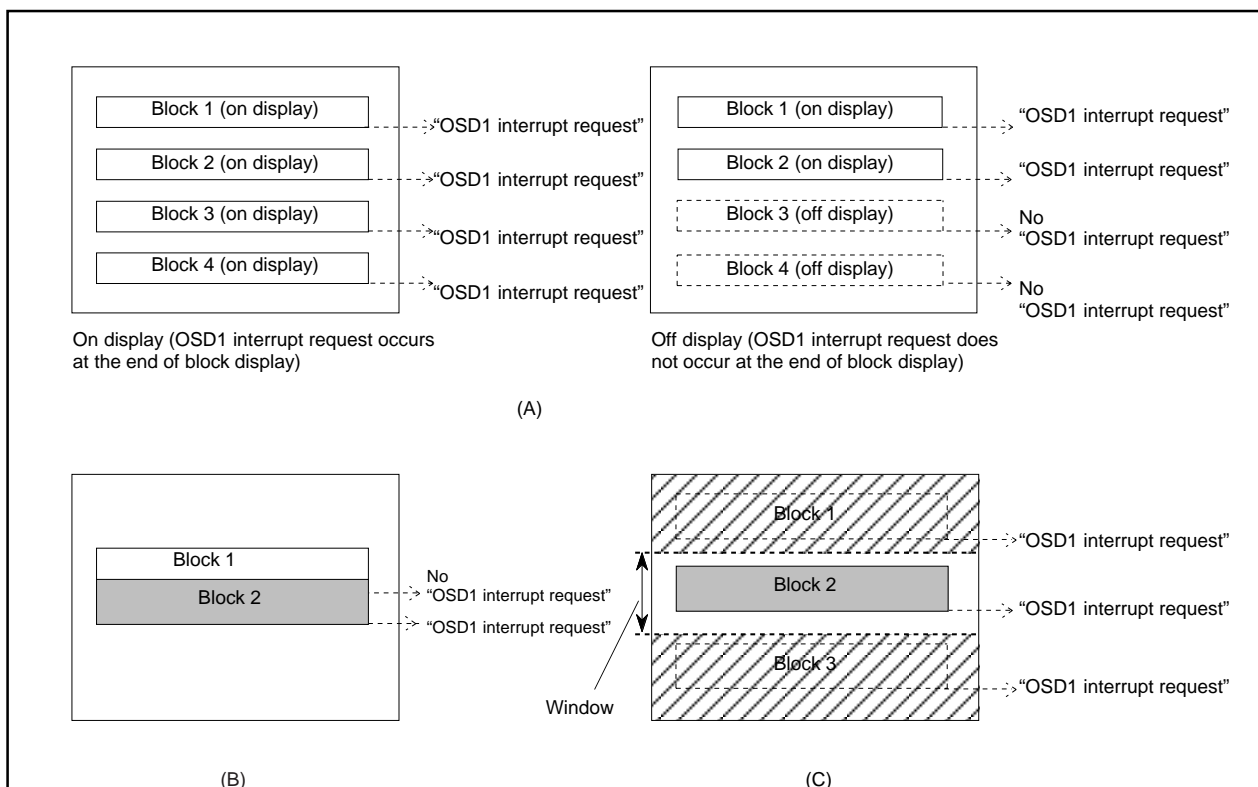

Figure 2.16.40 Note on occurrence of OSD1 interrupt
2: When another block display appears while one block is displayed, an OSD1 interrupt request occurs only once at the end of the another block display (refer to Figure 2.16.40 (B)).
3: On the screen setting window, an OSD1 interrupt occurs even at the end of the CC mode block (off display) out of window (refer to Figure 2.16.40 (C)).